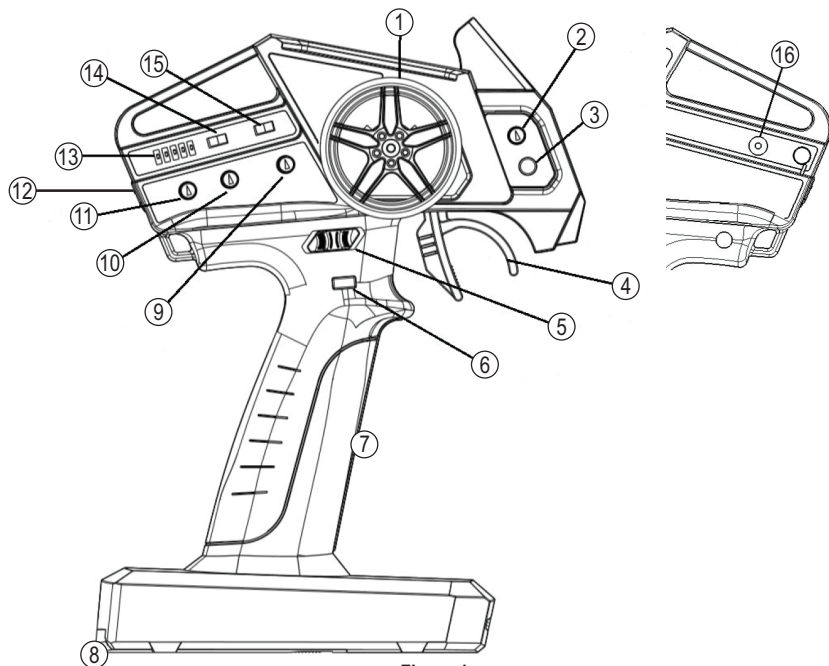

Figure 1
- Push the on/off switch (see fig. 1, no. 12) upwards.
- The LEDs (fig. 1, no. 13) indicate the battery status; the fewer of them are lit, the lower the battery status:
On the side of the transmitter, you will find a charging socket (fig. 1, no. 16) that can be used to charge the rechargeable batteries (for dimensions/polarity/charging current, see section "Technical data").
The steering wheel (fig. 1, no. 1) controls the steering servo connected to receiver channel 1. Turning the steering wheel to the left (counter-clockwise) causes the vehicle to move to the left depending on the rotation angle; turning it to the right (clockwise) causes it to move to the right.
- "ST-TRIM" knob (fig. 1, no. 9): set the steering servo to the middle/neutral position (or straight-ahead vehicle travel), as described in section 10.7
- "GYRO LV / ST-D/R" knob (fig. 1, no. 11): only when the receiver gyro is **switched off**: steering servo maximum deflection limitation, see section 10.8
- "ST" reverse switch (fig. 1, no. 14): steering function reversal, see section 10.9
The throttle lever (fig. 1, no. 4) controls the speed controller (or a throttle servo of a combustion engine vehicle) connected to receiver channel 2.
- "TH-TRIM" knob (fig. 1, no. 2): set middle/neutral position, see section 10.10
- "TH-D/R" knob (fig. 1, no. 10): dual-rate setting, see section 10.11
- "TH" reverse switch (fig. 1, no. 15): direction reversal, see section 10.12
If the vehicle tends to pull to the left or right while driving, even though the steering wheel is in the middle position, set the steering trim accordingly with the "ST-TRIM" knob on the transmitter (see fig. 1, no. 9).
During the adjustment, one of the LEDs (fig. 1, no. 13) indicates the trim position, and the LED display changes back to the battery status if the knob is not moved for approx. 5 seconds.
The "GYRO LV / ST-D/R" knob (fig. 1, no. 11) has two different functions depending on whether the receiver gyro is enabled or disabled.
The "GYRO LV / ST-D/R" knob (fig. 1, no. 11) allows changing the gyro sensitivity. More details can be found in section 11.
The "GYRO LV / ST-D/R" knob (fig. 1, no. 11) allows limiting the maximum steering angle, thus improving the vehicle steering performance during fast driving, as it responds more sensitively.
During the adjustment, one of the LEDs (fig. 1, no. 13) indicates the setting, and the LED display changes back to the battery status if the knob is not moved for approx. 5 seconds.
Use the "ST" slide switch (fig. 1, no. 14) to reverse the steering servo movement direction (e.g. when holding the transmitter with your right hand and steering with your left hand).
If the vehicle does not remain stationary when you release the throttle lever (middle/neutral position), set the trim for the drive function accordingly using the “TH-TRIM” knob on the transmitter (fig. 1, no. 2).
During the adjustment, one of the LEDs (fig. 1, no. 13) indicates the trim position, and the LED display changes back to the battery status if the knob is not moved for 5 seconds.